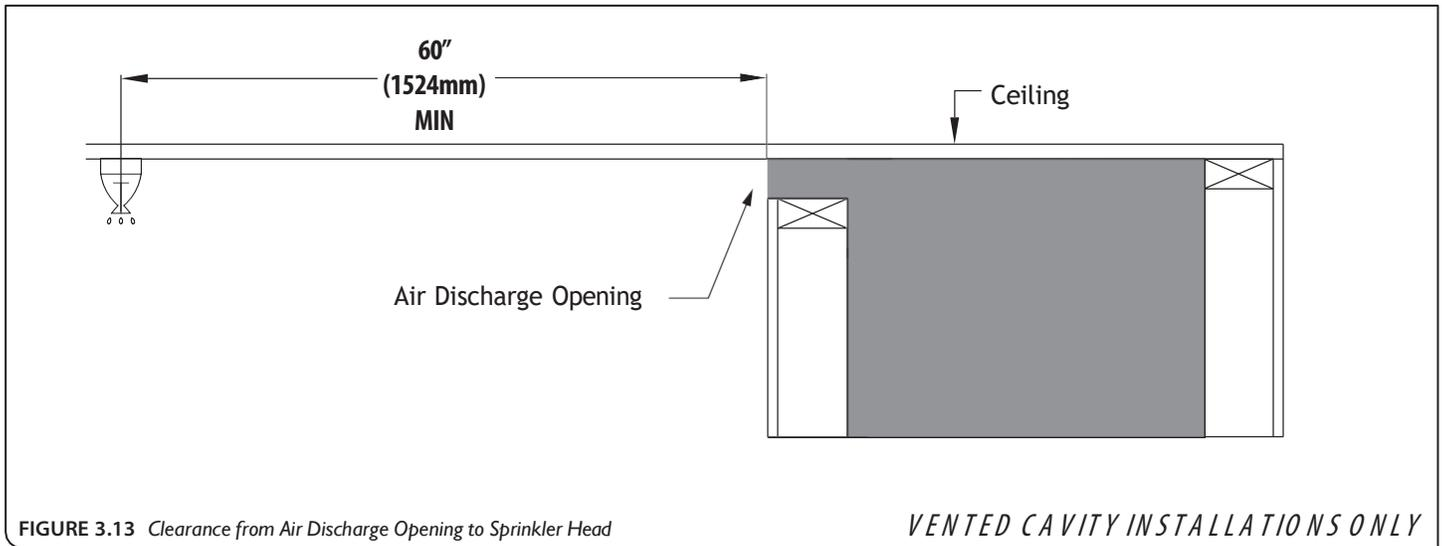

FIGURE 3.13 Clearance from Air Discharge Opening to Sprinkler Head
- In a situation where a sprinkler head is installed within the proximity to a vented cavity air discharge opening, **FIGURE 3.13** **MUST** be followed.